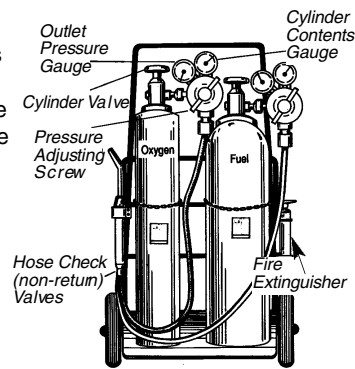

Figure 20.15
- Use oxygen and acetylene cylinders in a proper buggy equipped with a fire extinguisher (Figure 20.15). Secure cylinders upright.